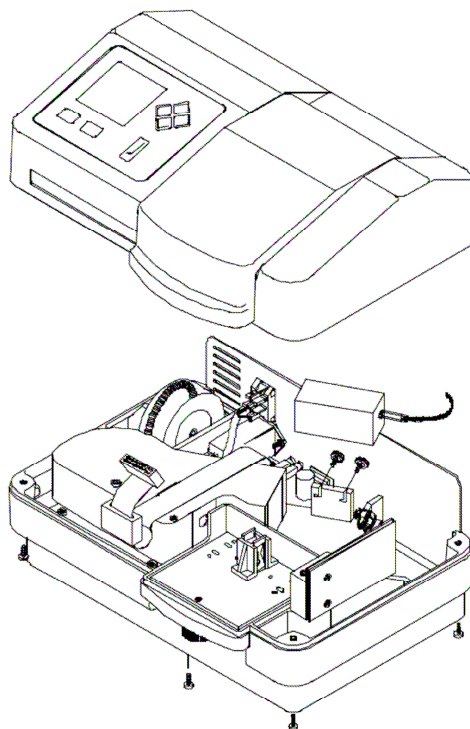

Figure 9.2.1. Separating the top and bottom case assemblies
Access to the lamp can be made by removing the top case assembly. The sampling accessory can be accessed through the sample chamber. Figure 9.2.1 shows the removal of the outer case and lamp module.
1. Remove the 4 case screws (see Figure 9.2.1).
3. Remove the thumb screw retaining the xenon lamp (see Figure 9.2.1).